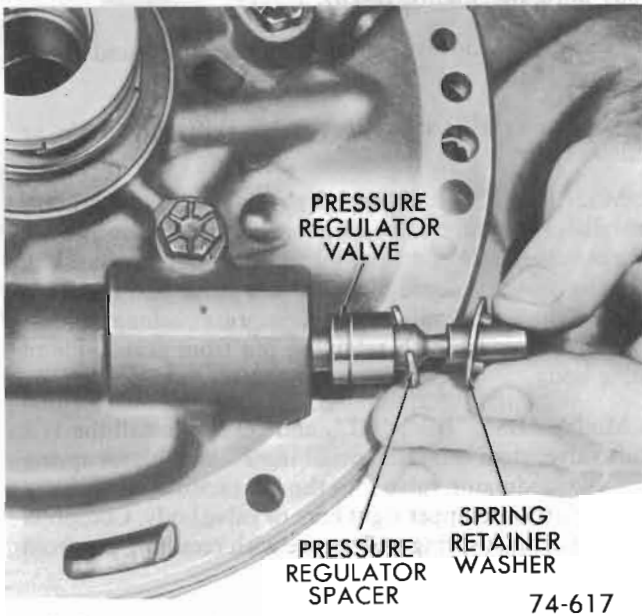

Figure 76-156
5. Remove the regulator valve, spring retainer and spacer(s), if present. See Figure 76-156.